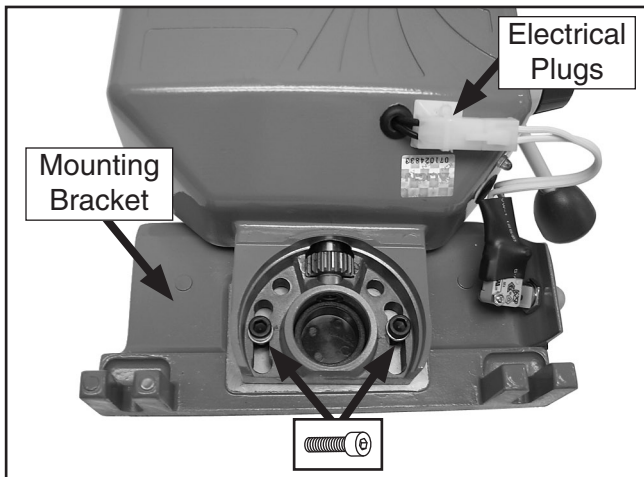

Figure 6. Mounting bracket installed onto the power feed unit.
- Install the mounting bracket onto the power feed assembly with the two cap screws provided, as shown in **Figure 6**, but do not yet fully tighten them.